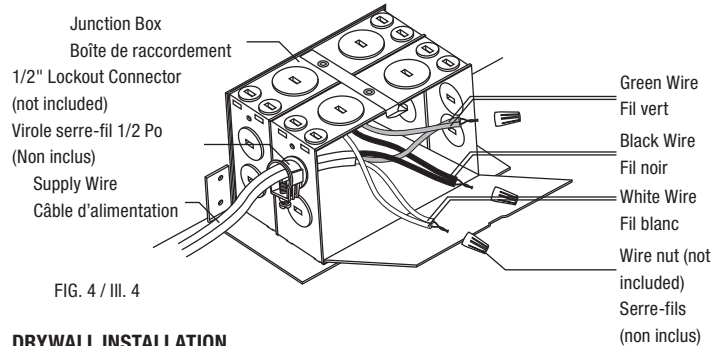

FIG. 4 / III. 4
4. Connect green ground wire of fixture to green ground wire of power source cable. Connect black wire of fixture to black wire of power source cable. Connect white wire of fixture to white wire of power source cable. Cover these connections with wire nuts (Fig. 4). Make certain there are no exposed strands of wire.